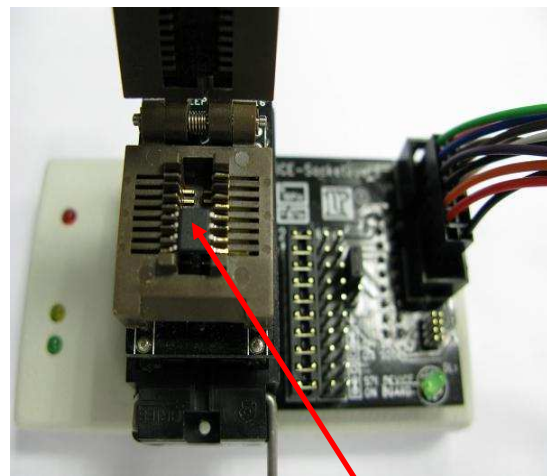

Figure 2.
2. SOP 8 Pin device: Use suitable SOP adaptor (Optional accessory) and refer to Figure 2 below.